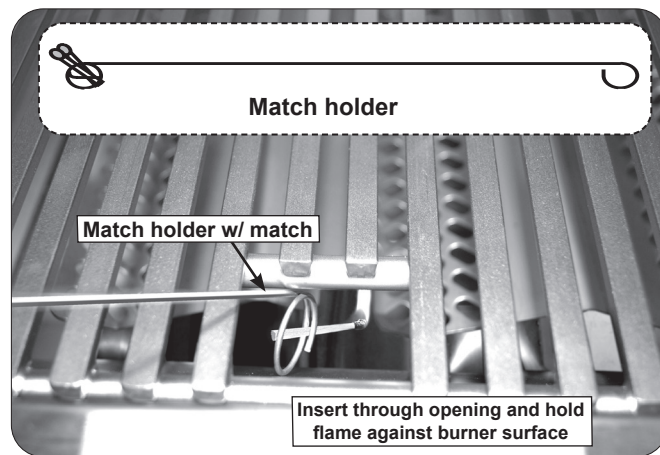

Fig. 33-2 Manual lighting
2. Insert either a burning long-barrel butane lighter, a burning long-stem match, or a burning match held by a wire extension holder through the cooking grids to the burner (Fig. 33-2).